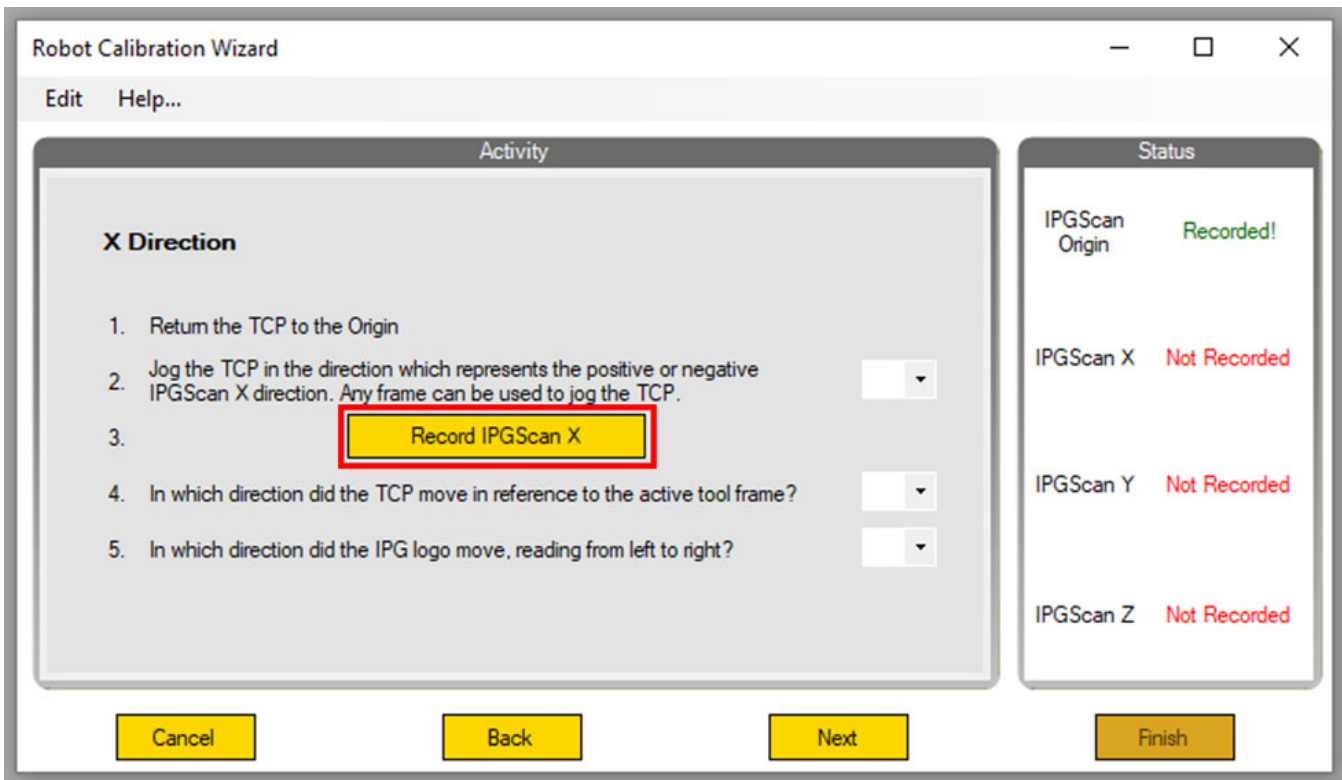

Figure 273: Calibration Wizard X, Y, Z Axis
5. On each of the following screens, the IPGScan X, Y, and Z references are set. The robot must start at the origin before recording the new position on each page (see Figure 273 on page 259).